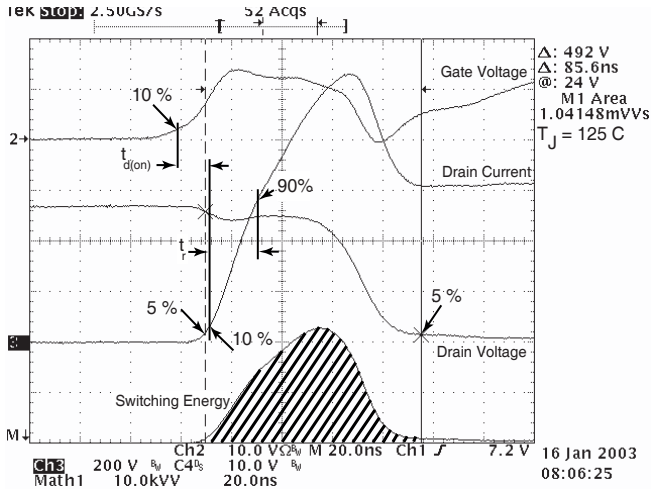

Figure 18, Turn-on Switching Waveforms and Definitions
① Repetitive Rating: Pulse width limited by maximum junction temperature
② Pulse Test: Pulse width < 380 μs , Duty Cycle < 2%
③ See MIL-STD-750 Method 3471
④ Starting $T_j = +25^\circ C$, $L = 2.00mH$, $R_G = 25\Omega$, Peak $I_L = 31A$
⑤ dv/dt numbers reflect the limitations of the test circuit rather than the device itself. $I_S \leq -I_D 31A$ $di/dt \leq 700A/\mu s$ $V_R \leq V_{DSS}$ $T_j \leq 150^\circ C$
⑥ E_{on} includes diode reverse recovery. See figures 18, 20.